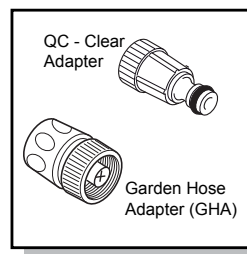

Fig. 12
- Install the garden hose adapter (GHA) and quick connect filter. It is made up of two separate pieces. (1) A clear plastic adapter with a screen filter (about 3 inches long) and (2) a blue/black collar attachment (Fig. 12).